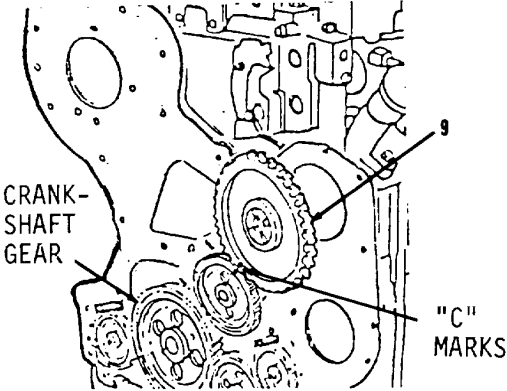

Figure 3-23.
- 5. Turn crankshaft and camshaft so the "C" marks are in alignment on gear (9, Figure 3-23) and crankshaft gear.